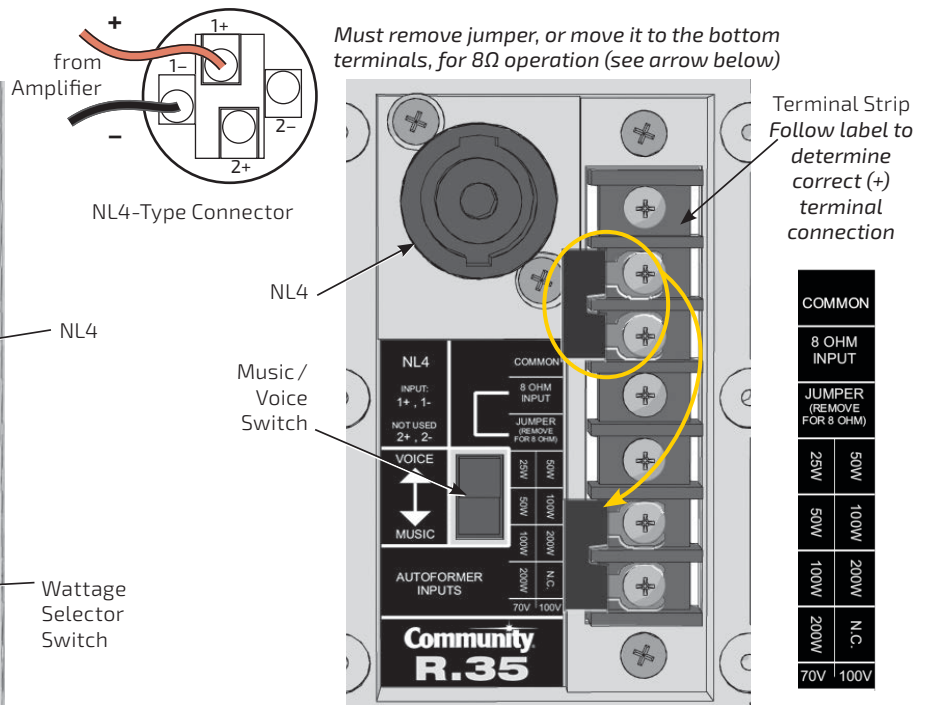

Figure 5b. R.35 input panel
R.35: Insert the cable through the gland nut and weather cover and wire the unit referencing the label for connections for your system voltage. See **Figure 5b**. There is a preinstalled jumper that should be left in the marked position for 70/100V use, or moved to the bottom terminals for 8Ω operation. Failure to do so can result in damage to the loudspeaker and/or amplifier. Set the Music/Voice switch to the desired position based upon your type of application. The NL4 connection can only be used for low impedance 8Ω operation.